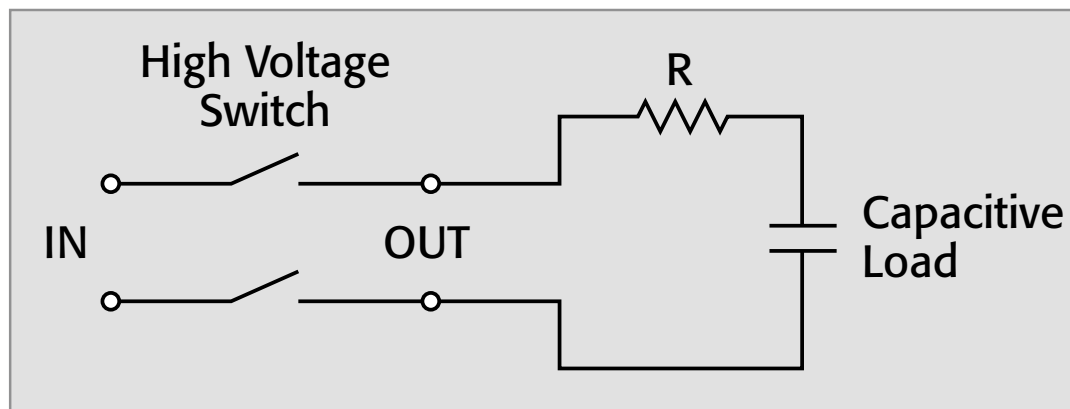

Figure 5. Limiting capacitive reaction current
The surge current from a capacitive load is $i = C \, dV/dt$ and must be limited to less than the rated current to protect the relays. **Figure 5** shows a series resistance (R) used to limit the charging current. The resistor must be able to withstand the applied voltage; otherwise, the high voltage may arc across the resistor, damaging the device under test and the switch card. All components must be rated for peak voltage and current.